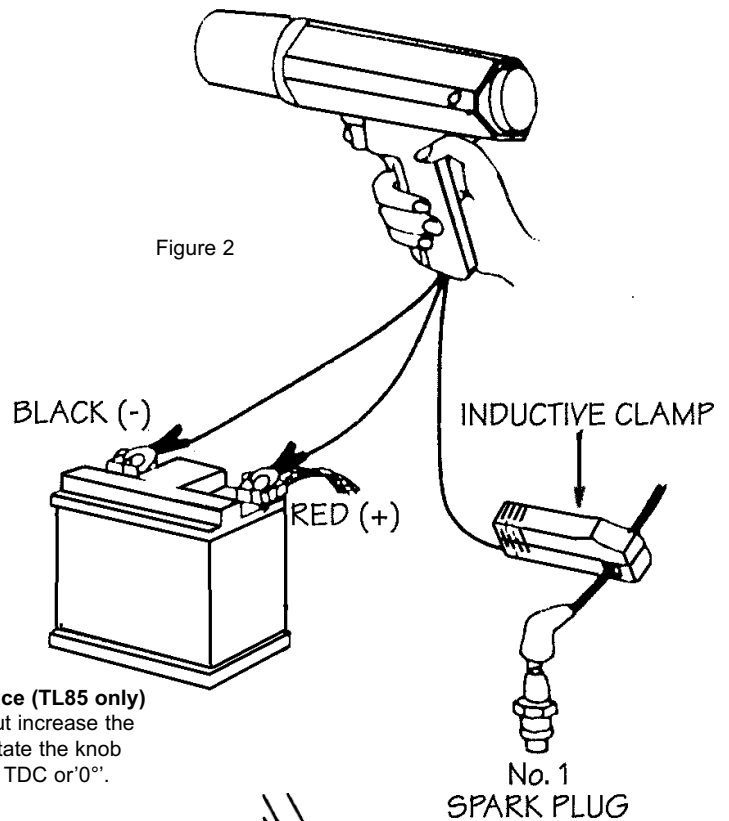

Figure 2
- 4.1.6 Connect the timing light as shown in figure 2.